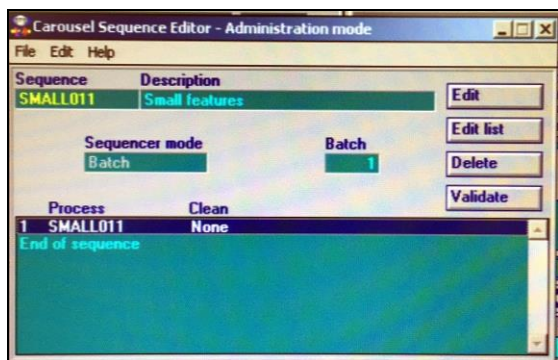
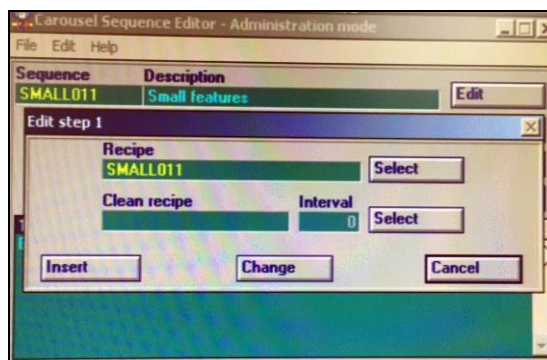

Fig. 20a Sequence editor
Fig. 20b Recipe insertion screen
- **View:** The “View” key is use to open the sequence editor, in which details of the required sequence can be viewed or edited (Fig.20a). To insert a recipe step into a sequence, click “Edit“ key in the sequence editor, and then “Select” key to select the right recipe from the recipe database (Fig.20b), finally click “Insert” key to insert a recipe. After the recipe inserted, a sequence description can be input in the Description field. At the end, click the “validate” key to verify the sequence created is valid for recipe running and save the sequence.